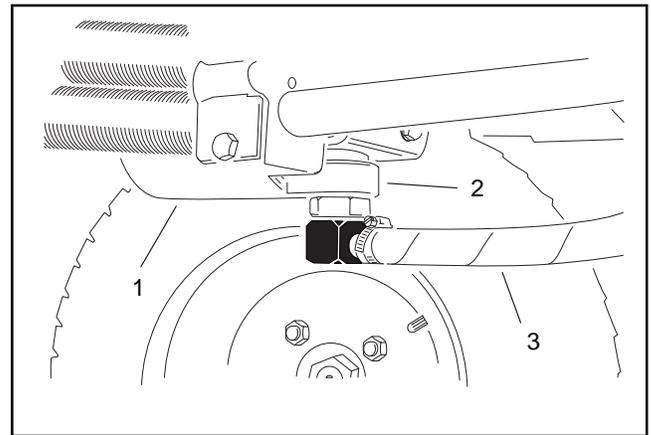

Figure 11
4. Place a suitable container under the hydraulic filter to collect the hydraulic fluid. The container should have a 6 gal. (23 Ltr.) minimum capacity. Disconnect the hydraulic hose below the filter head or remove the hydraulic filter element and drain the hydraulic system (Fig. 11).